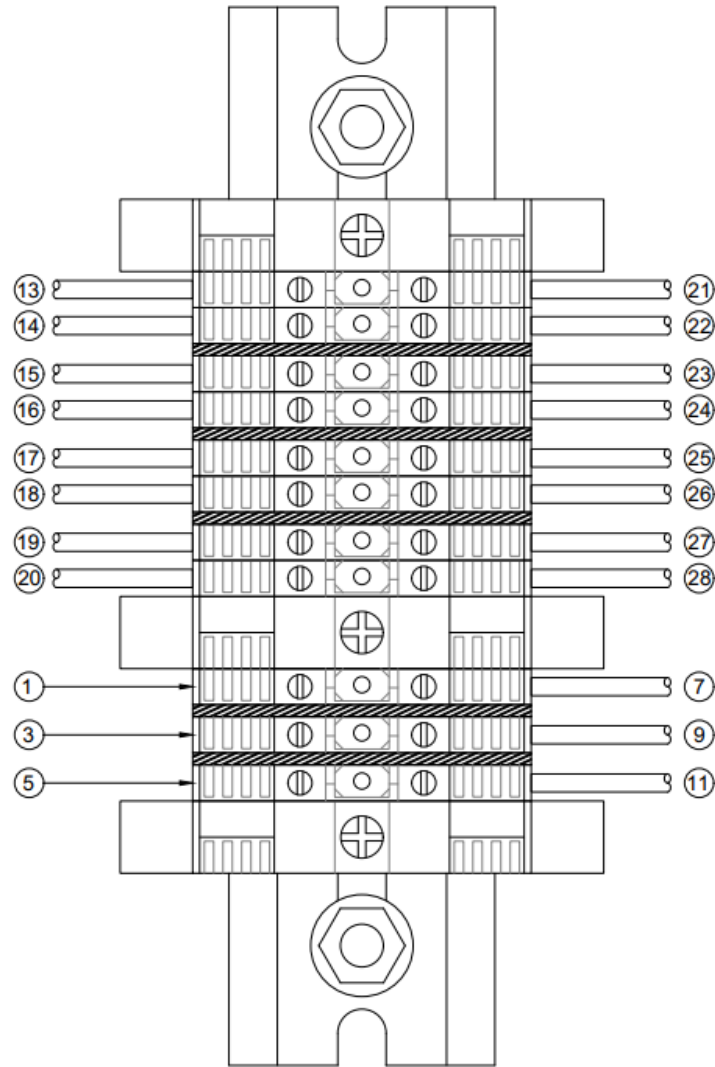

Figure 7b – Diagram –
1.10.4.2. Terminal Strip and Control Panel. See Figure 7a and Figure 7b for information on connection to the terminal strip in the upper enclosure. Use Section 5.1 – Notifier manual 52741 to guide the installation of connections to the control panel. Terminals for 110VAC power accept qty. (1) 10 ga. max. conductor. NOTE: All conductors used for field wiring must comply with NFPA 70 – National Electrical Code, and control panel manufacturer's instructions (see Section 5). See Section 5 for information on power-limited conductor runs.
Legend for Figure 7b